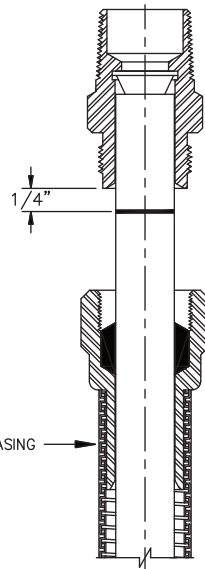

FIG. 4
7. INSERT PE PIPE INTO ADAPTER COUPLING. LINE MARKED FOR STAB LENGTH SHOULD BE NO MORE THAN 1/4" FROM END OF ADAPTER COUPLING, IF NOT, REASSEMBLE (FIG 4).